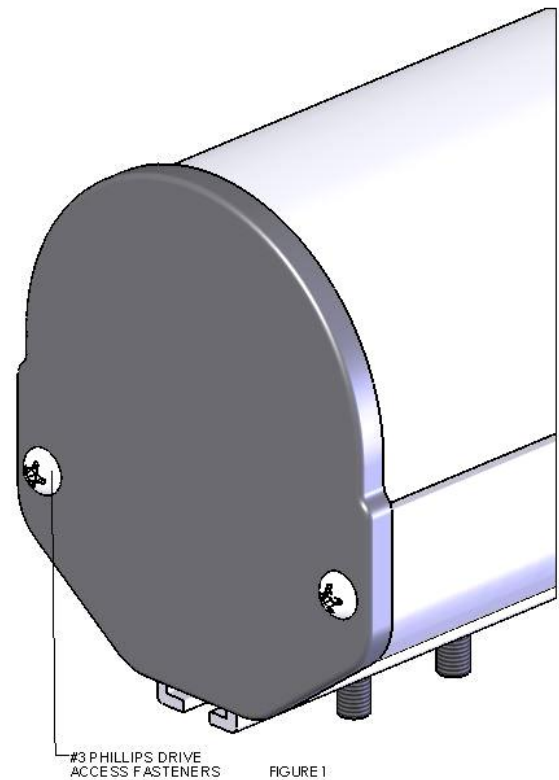

FIGURE 1
2. Remove the access fasteners as shown in figure 1. (It may be necessary to remove both ends to ease re-assembly).